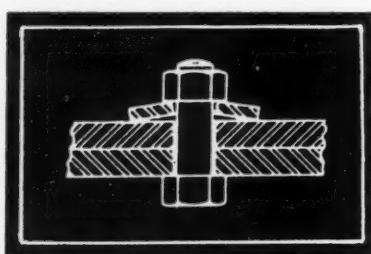

Fig. 9 — Illustrating how spring washer can augment bolt elasticity, resulting in longer bolt life
A practical assembly having the characteristics of the assembly in Fig. 7B is shown in Fig. 9 in which a spring washer is clamped between the bolt head or nut and the bolted assembly. When such a spring washer is dimensioned to support, within its elastic range, the required external load or the initial bolt tension, whichever is the greater, the effective bolt elasticity is increased and, therefore, the bolt fatigue strength is also increased.
It is probable that in many instances spring members such as are shown in Fig. 9 can be profitably used. This would add to bolt elasticity, thus providing (1) greater safety against loss of tension by embedding, corrosion, yielding, etc., and (2) greater safety by reducing the stress range experienced by the bolt. Deflection of the spring member could probably be used as a measure of bolt tension with reasonable accuracy since deflection could be relatively great and therefore easily measured. It would be necessary to design these spring members to support the desired bolt tension within the elastic range of the spring and to avoid clamping them solidly against the abutments. They could be made in the form of disk springs or as beams depending on the available space, only one size being required for each bolt size.